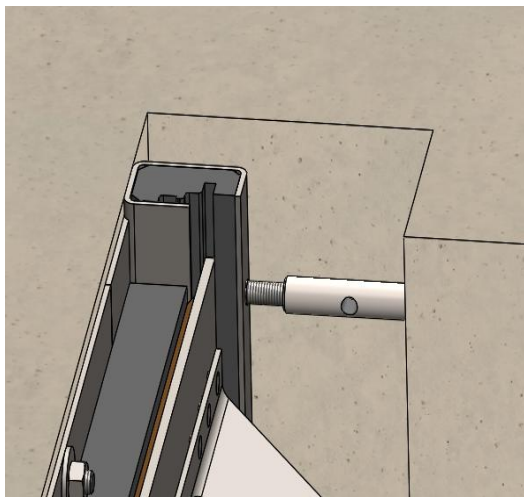
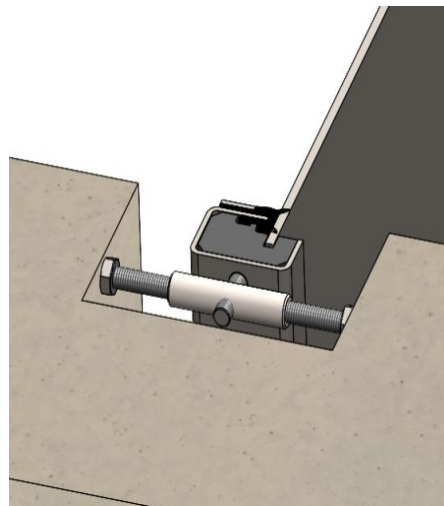

Fig. 9
Fig. 10
- Position Sluice Gate Valve in respective recess and align with plumb and level acc. Fig. 9.
- Standard fasteners can be caulked and fixed in the recess using threaded sleeves and appropriately long hexagonal screws. Four-sided sealed fasteners with cross seals are positioned on the rear support surface (Fig. 9), and three-sided sealed fasteners without cross seals are usually positioned approximately in the middle of the recess. (Fig. 10)
- If necessary, tighten bolts at the transverse seal. - Connect anchor and dowel bolts in the recess with a bar profile by welding acc. Fig. 10.